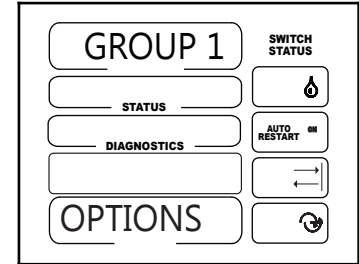

Figure 9-1
2. GROUP 1 will be shown in the display screen. See figure 9-1.